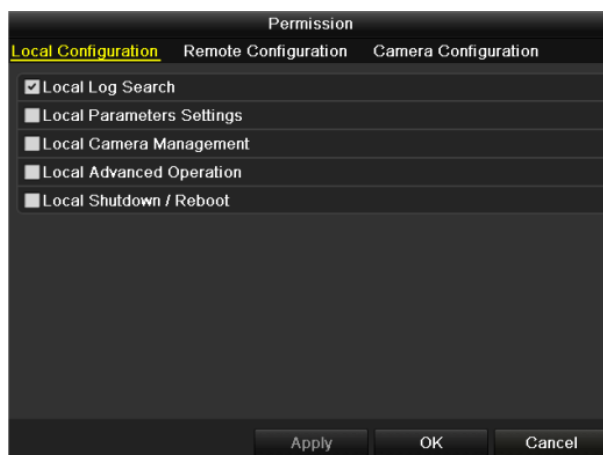

Figure 17-17 User Permission Settings Interface
- 1) Select the user from the list and then click  to enter the **Permission Settings** interface, as shown in Figure 17-17.